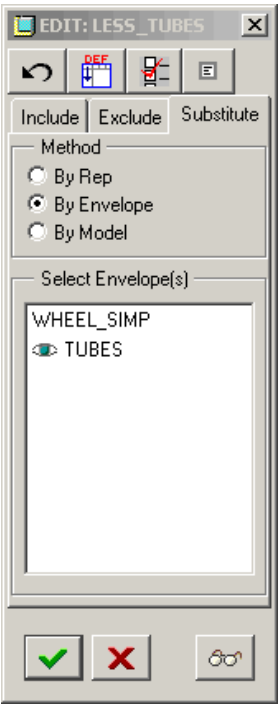

Figure 10
9. Click View > View Manager, and in the SIMP REP tab create a new simplified representation. Click New and name the representation "Less_Tubes" and press ENTER. Master Rep should automatically be set as the default rule under the Include tab. In the Substitute tab, pick By Envelope from the METHOD menu, and pick "tubes" from the SELECT ENVELOPE menu. This will automatically replace the components selected in Step 7 with the envelope "tubes," as shown in Figure 10. If the envelope "wheel_simp" appears with an eye symbol next to the name, then select "wheel_simp" again until the eye no longer appears. Accept the specified changes, exit the EDIT menu and close the View Manager. An alternate method to creating the simplified representation is to simply click View > Substitute > Envelope and double-click on TUBES in the Select Envelope dialog box. Then click View > View Manager and under the Simp Rep tab click New and enter "surf_wheel" and press ENTER.